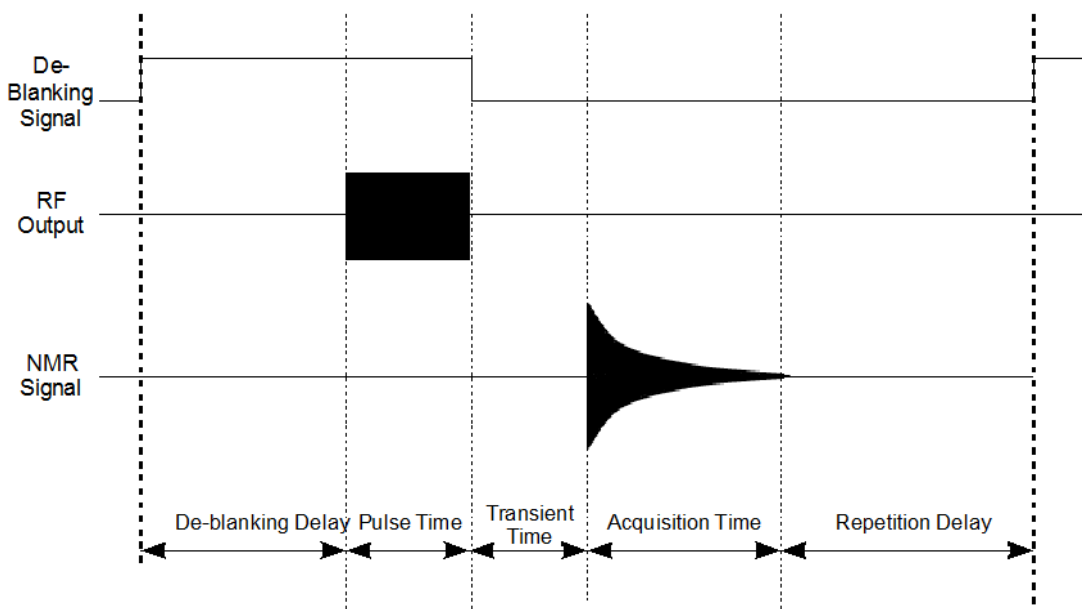

Figure 11: Timing diagram for one single pulse NMR scan (not drawn to scale).
3. Identify the `singlepulse_nmr_example.bat` and edit the file by right clicking the file and then selecting “edit”. The timing values in the batch file correspond to those in Figure 11.